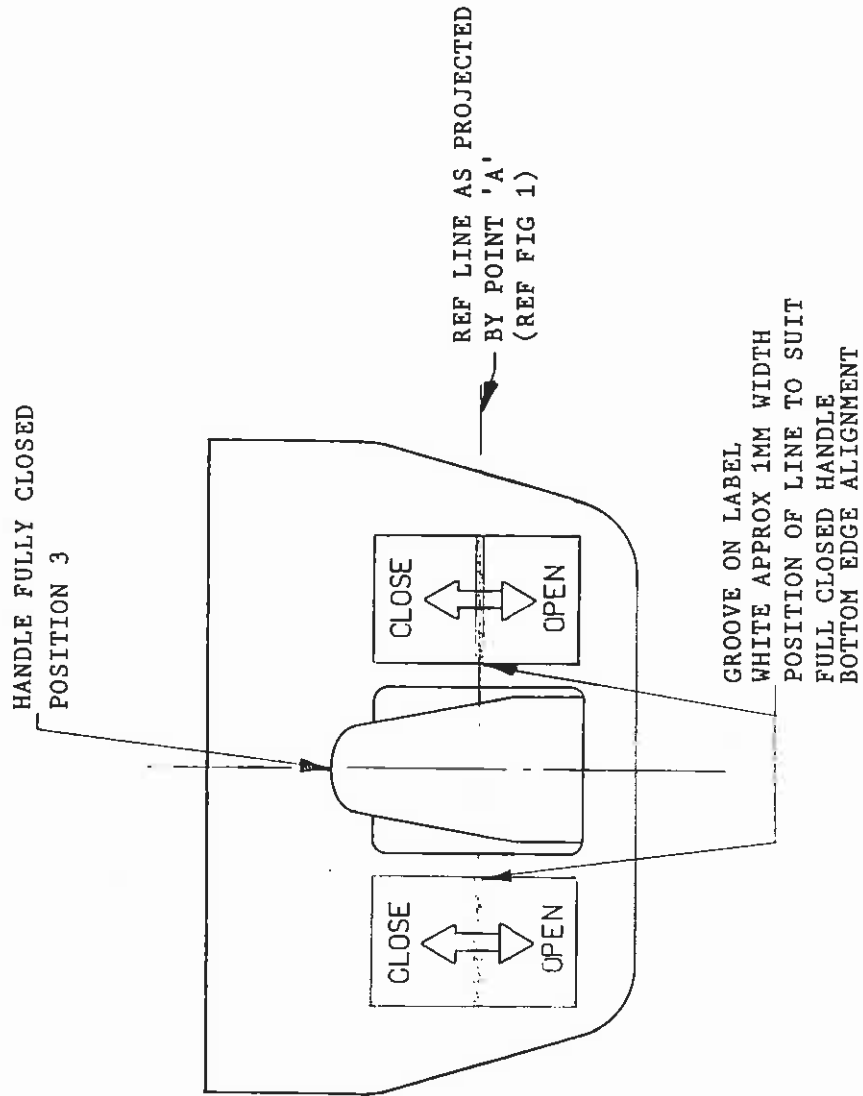

FIG 2
- (vii) When handle is fully closed, ie meets requirements of Fig. 1, mark a white line across both labels ref. Fig. 2 on line with handle lower surface (ie coincident with Point 'A' ref Fig. 1 & 2. The line may be obtained by running a hacksaw across both labels; a) deep enough to reveal white of label material or b) if base material is red, deep enough to hold white fill in wax, ie 0.25mm to 0.5mm.